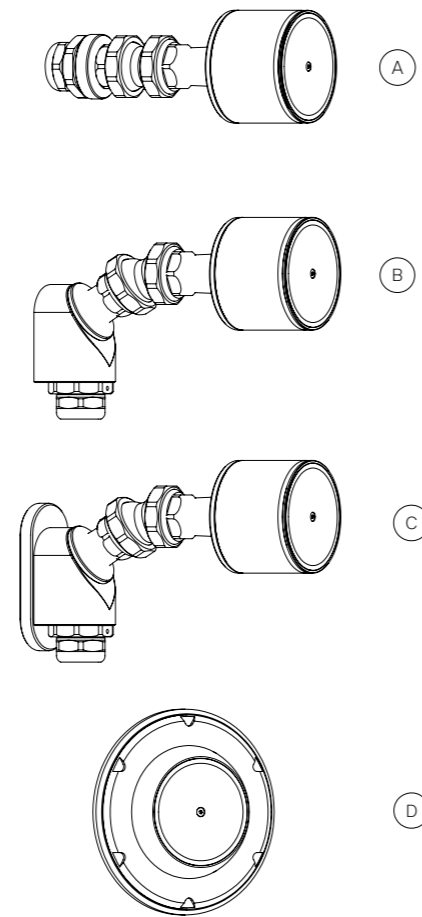

Figure 6
- The flex arm mount (trough-wall mounting) (Fig. 6-A) is ideal for installation in a sheet metal wall with a direct supply line feed-through.
- The flex arm mount (magnetic mounting) (Fig. 6-C) is ideal for simple and quick mounting without modification to the machine tool, in particular for tests or selecting a suitable installation location. For permanent installation, fixed mounting is recommended. To do this, remove the magnetic shoe; the holder then corresponds to the "pre-wall mounting" version.
- The ball head mount (Fig. 6-D, shown without tool and without counter holder) is designed for installation in a sheet metal wall. Thanks to its flat and chip-repellent contours, comparatively few chip nests occur when using this mount. The holder has a spherical cup holder that makes it compatible with all camera head variants. The maximum inclination is  $\pm 20^\circ$  to the axis of the drill hole. The camera head can be mounted with an orientation of 0–360°.